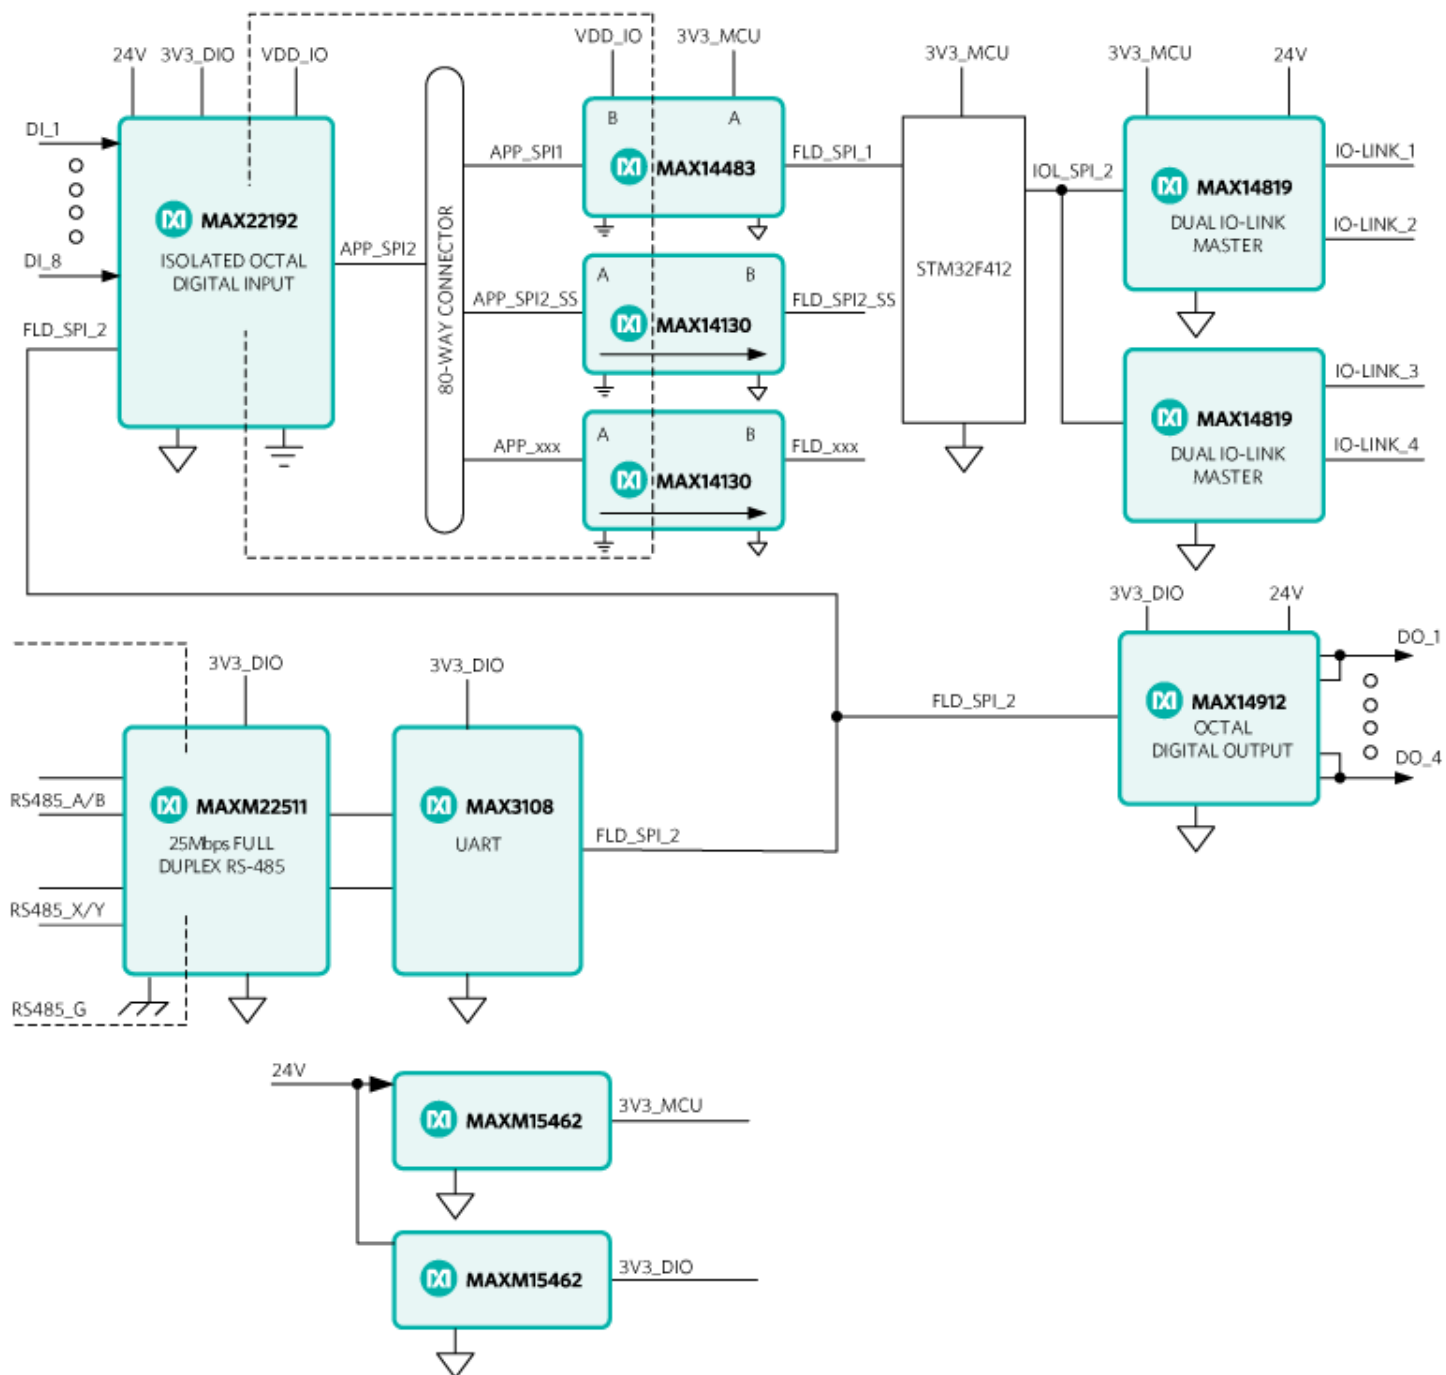

Figure 6. MAXREFDES200# block diagram.
**Figure 6** shows the system block diagram for the MAXREFDES200#.